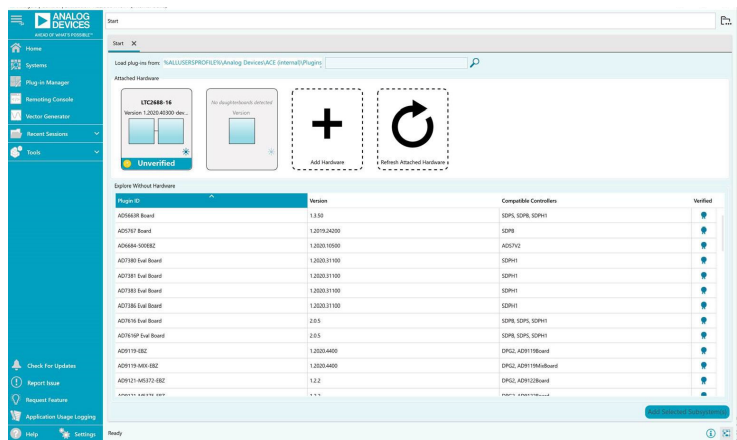
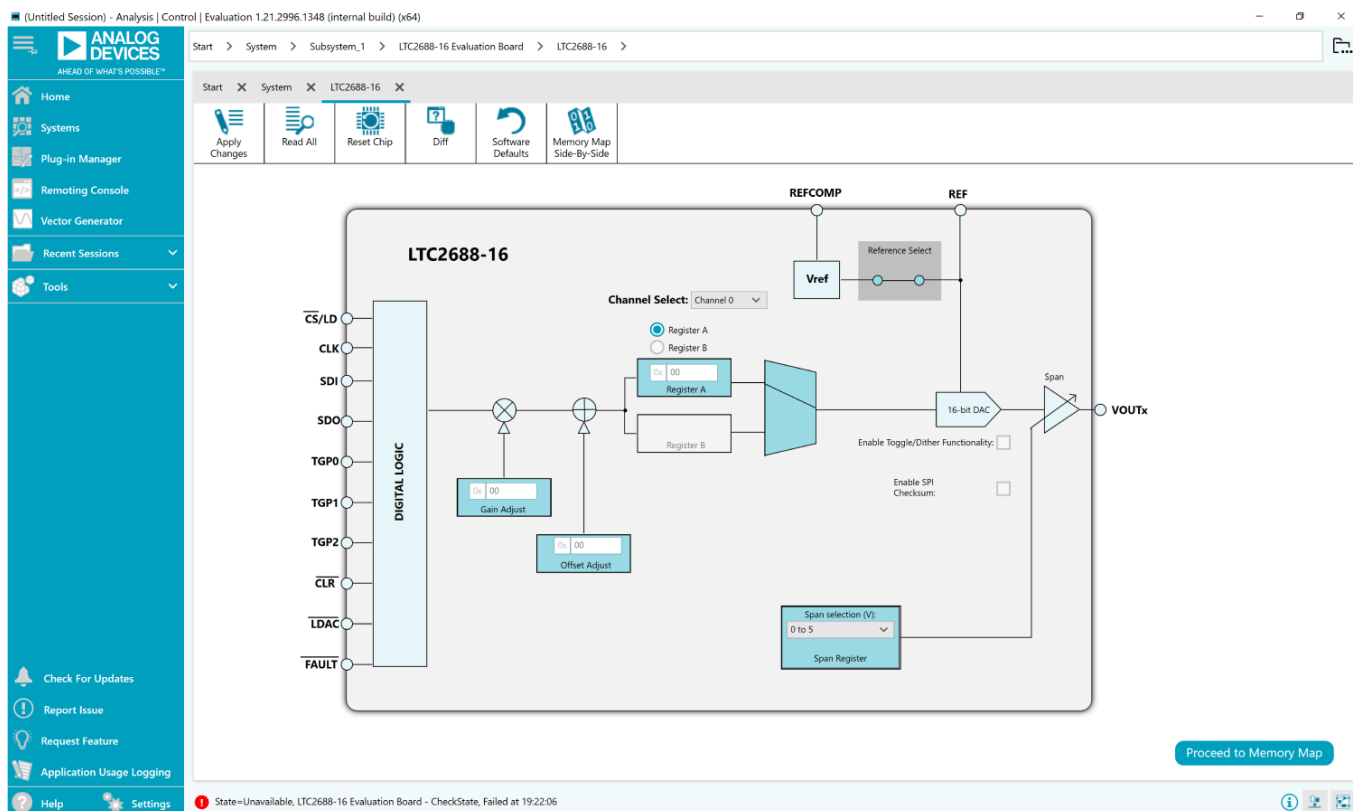
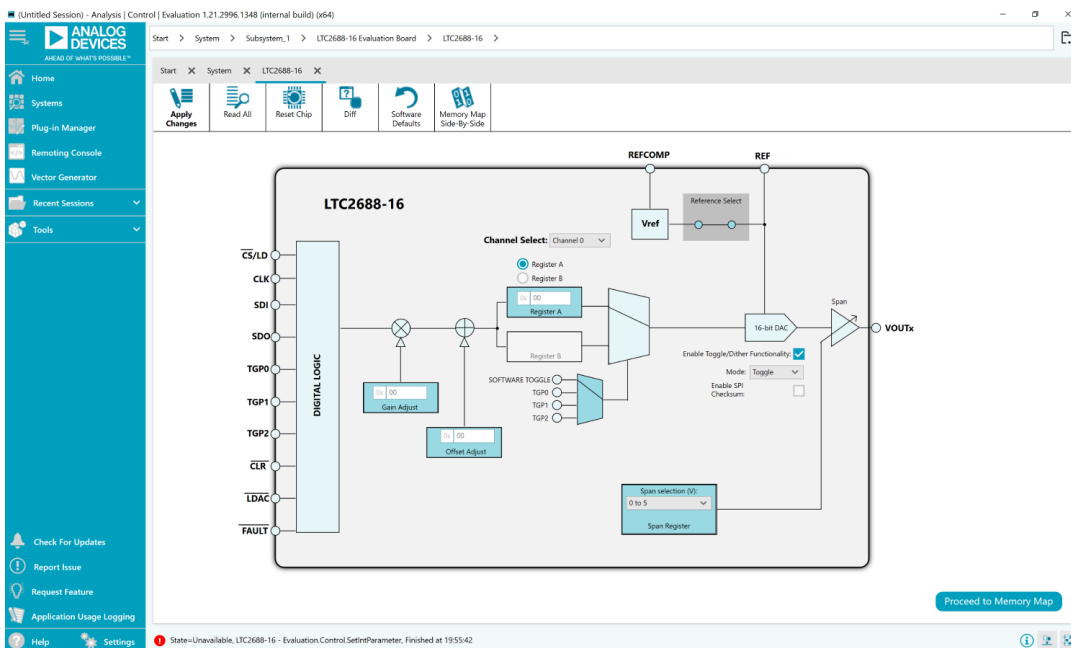

Figure 4. Interface Window
Figure 5. ACE Evaluation Software Main Window
Figure 6. Toggle View
To start the ACE evaluation software, from the **Start** menu, click **Analog Devices > ACE**. The software window opens (see Figure 4) until the software recognizes the DC2873A-B. When the software recognizes the DC2873A-B, the main software window in Figure 5 opens.
In the main ACE evaluation software window (see Figure 5), each channel can be controlled. Various settings for the LTC2688 are available in this window, allowing the user to configure the output range, output voltage, gain adjustment, offset adjustment, toggle options, and dither options of each channel.
The DC2873A-B uses the LTC2688 internal reference to set the full-scale range. To apply an external reference, click the box labeled **Reference Select** (see Figure 5).
2. Select the desired range for the selected channel using the **Span selection** dropdown box (see Figure 5).
2. Type the desired value into the **Register A** text box (see Figure 5).
2. Type the desired hexadecimal value into the **Register A** (or **Register B**) text box (see Figure 5).
2. Type the desired hexadecimal offset or gain adjust value into the **Offset Adjust** or **Gain Adjust** text boxes (see Figure 5).
Toggle mode can be enabled by selecting the **Enable Toggle/Dither Functionality** check box (see Figure 5). This check box enables the toggle view shown in Figure 6. The toggle signal can then be applied to the selected pin or supplied internally.
After enabling the toggle view shown in Figure 6 as described in the Enabling Toggle Mode section, select the dither mode from the
To access the LTC2688-16 Memory Map view, click the **Proceed to Memory Map** button from the software main window (see Figure 5).